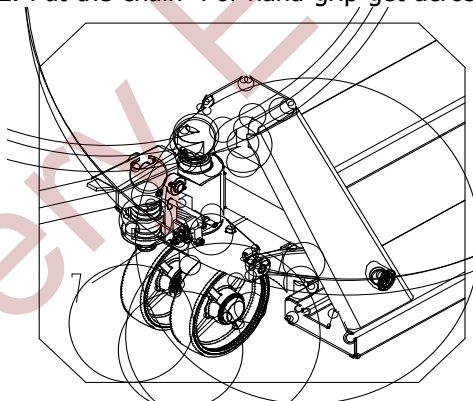

Fig.3
3.6 See fig 3, turn the hand grip to the level position, pull out pin 7 and save pin 7 with care for next use.